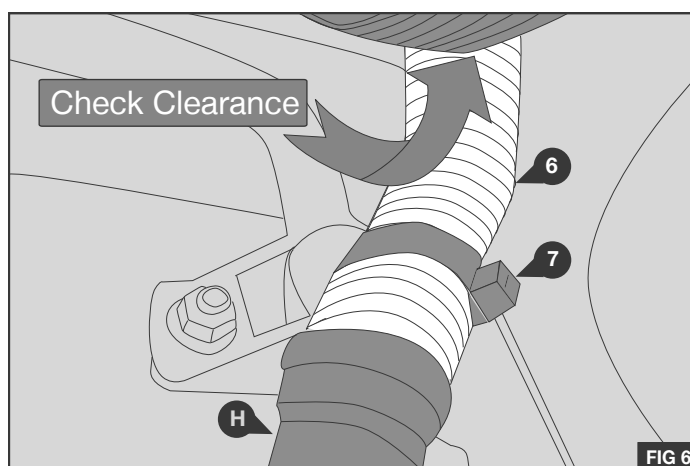

FIG 6
3. Remove and discard the original manufacturers poly groove drive belt (C), noting the original routing, if different from the diagram shown in Fig.6 report your findings to your Kit/System supplier before proceeding.
4. Fit the supplied protective sleeve (6) in position shown on pipe (H) and secure away from moving parts with the supplied cable tie (7) - Fig.6